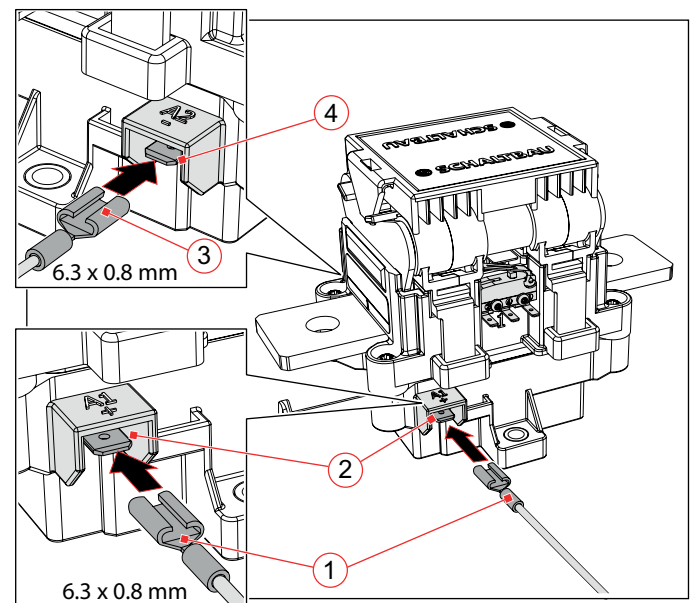

Fig. 17: Creating coil connections (the figure shows C360A, the procedure is identical for C360K and C360S)
- ▶ Move and route the control wires and receptacles only in the direction of plugging, see **Fig. 17**.
▶ Plug the prepared control wires with the receptacles (1/3) to both coil terminals A1+ (2) and A2- (4).